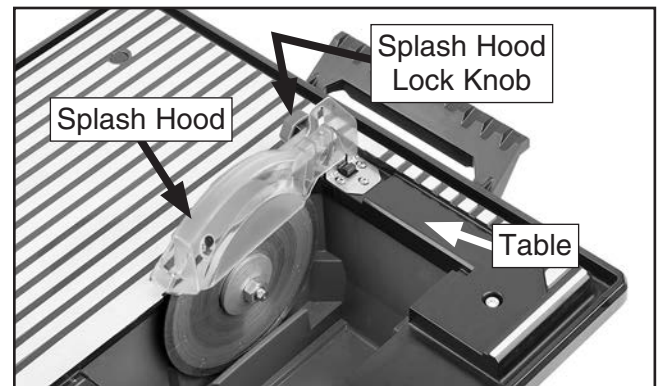

Figure 8. Splash hood attached to table.
5. Attach splash hood assembly to table with flange screws so blade guard rests over blade (see **Figure 8**).
6. Loosen splash hood lock knob (see **Figure 8**) and adjust hood until it is aligned with but does not contact blade, then tighten to secure.